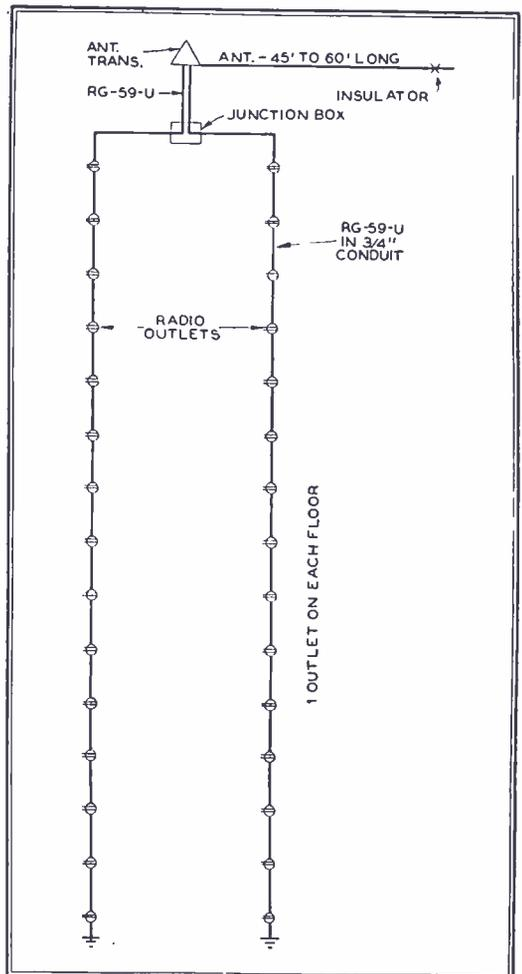
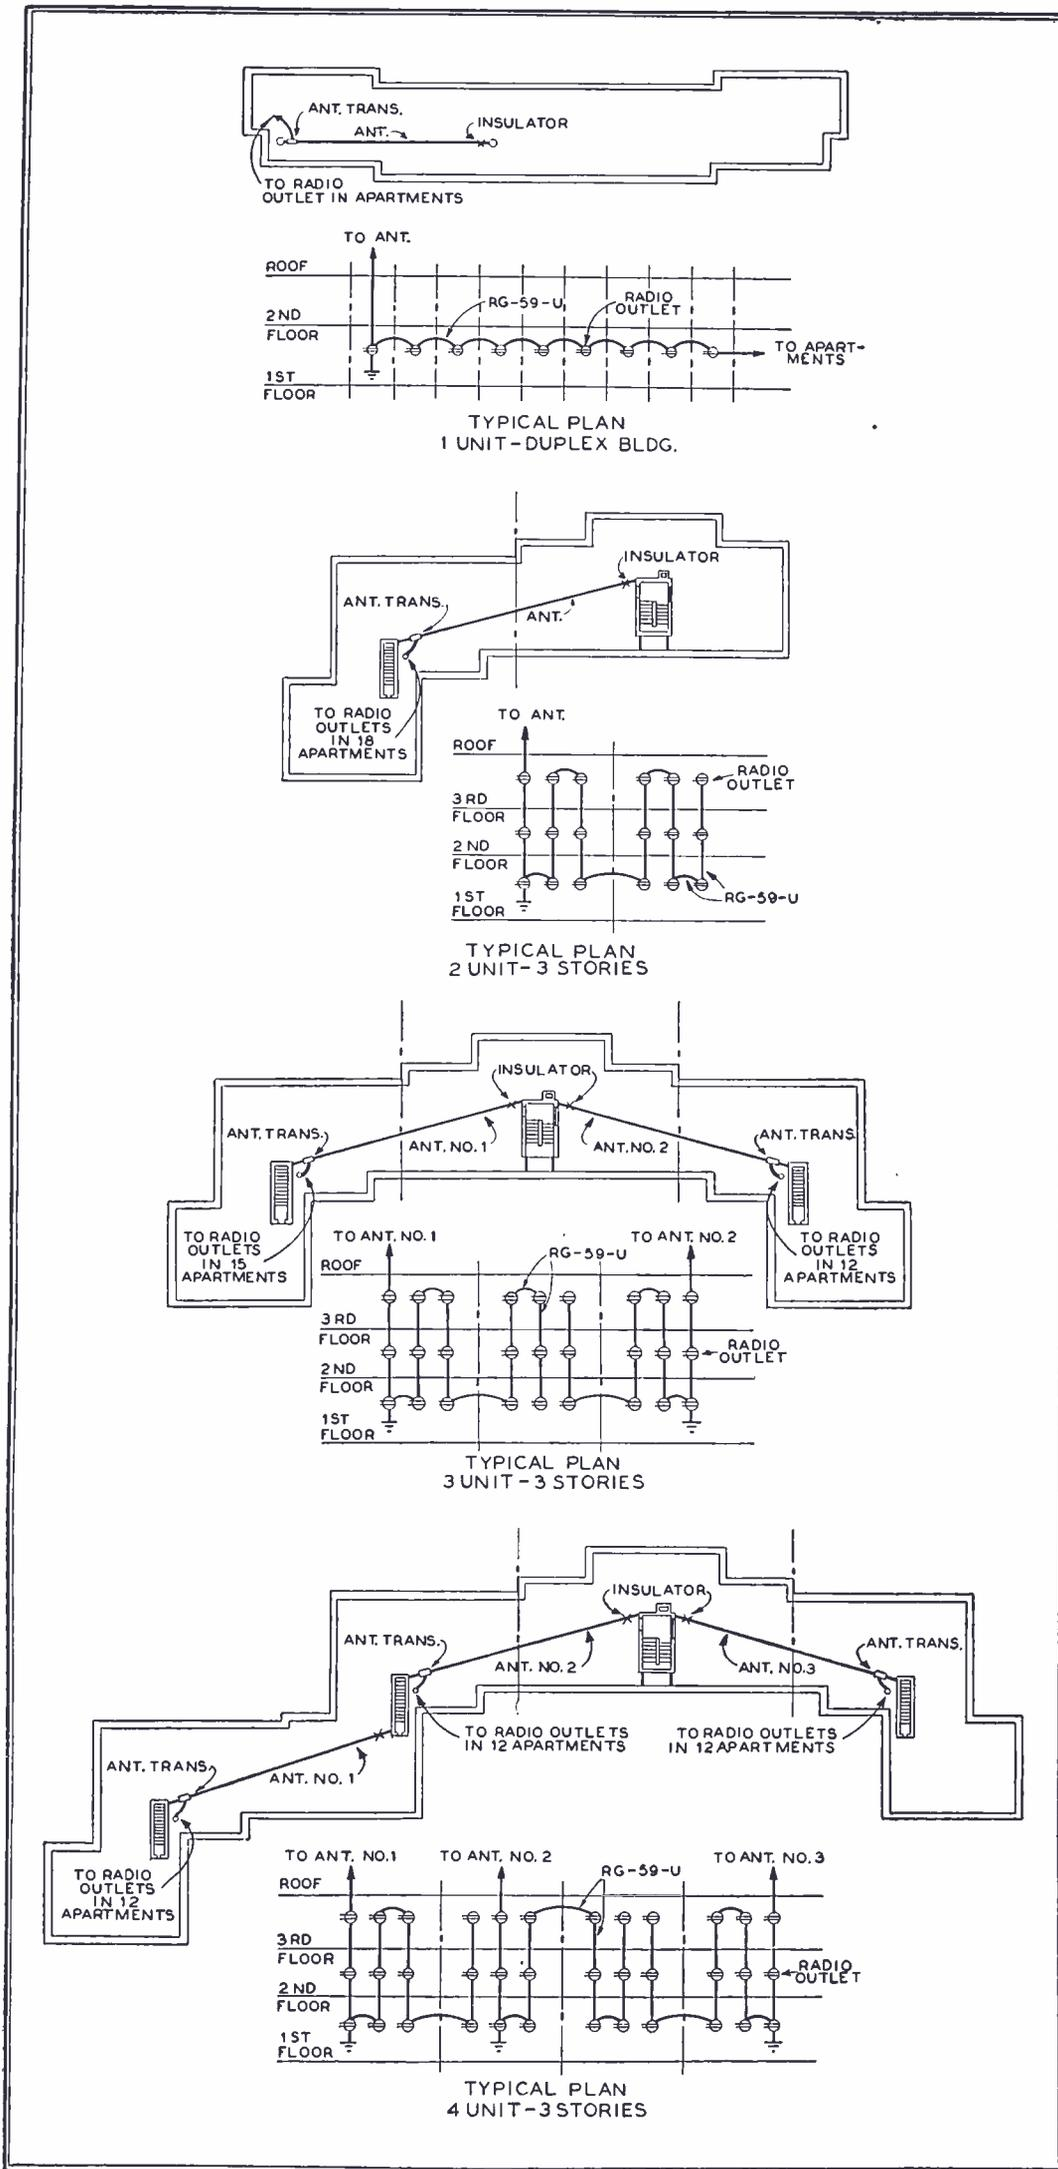

FIG. 3. ANTENNA RISER WITH 15 OUTLETS
FIG. 4. FOUR TYPICAL ARRANGEMENTS FOR APARTMENT HOUSE ANTENNAS AND RISERS
At the Metropolitan Life buildings, each riser carries 15 outlets, Fig. 3, and each antenna is connected to 2 risers, as in Fig. 6. There you will see another method of making connections that we have used successfully. The outer insulation of the RG/59/U cables is stripped down to the braided shield. Then the shielding on the three cables is wrapped with No. 18 solid copper wire, and the joint soldered. Finally, the ends are formed into a loop, and the three inner conductors are twisted together and soldered. Both joints are well taped. In this way, the cables are relieved of strains that might break the wires or injure the insulation.
**Riser Plans** ★ The multicoupler system for providing apartment antenna outlets is very flexible. Arrangements vary in accordance with building requirements from the straight-line plan in Fig. 3 to those shown in Fig. 4.